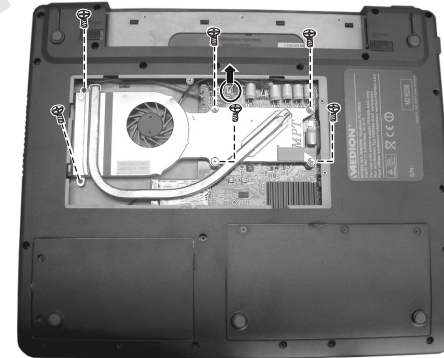

Figure 2-7 Free the heatsink
3. Remove the four spring screws and two screws that secure the heatsink upon the CPU and disconnect the fan's power cord from the system board. (Figure 2-7)